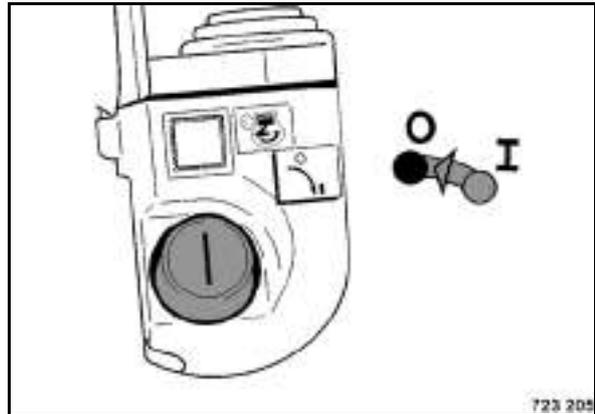

Fig. 62
- Turn the ignition switch to position "O" (Fig. 62) and pull it off.